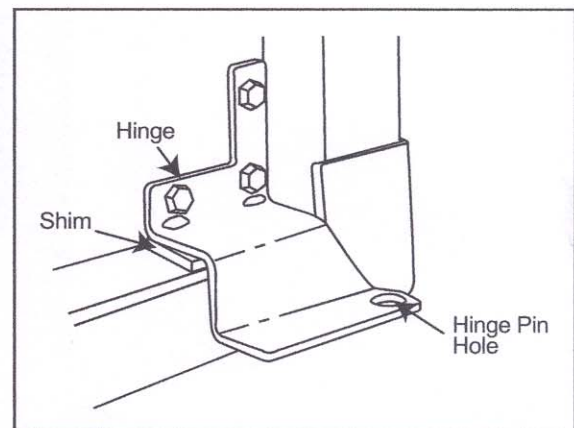

Figure 2. Hinge installation (on both sides of cabinet)
7. Reinstall the hinge onto the cabinet. See Figure 2.